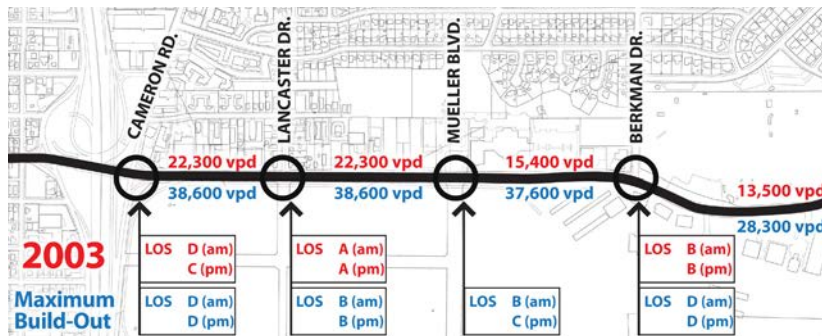

Figure 7:
- A finer pattern of streets and blocks to provide for future intensification (Figure 7).
- Because 51st Street between IH 35 and Berkman Drive is projected to carry up to 38,000 vehicles per day (Figure 7), it will need to maintain its five-lane configuration. East of Berkman Drive, it may be possible to reduce the number